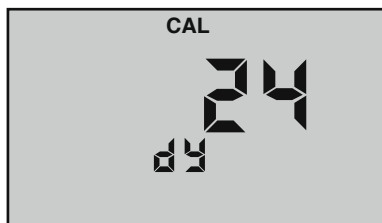

Figure 15
9. Press $\frac{\text{CAL}}{\text{MCLR}}$ to accept the change (new day) (see Figure 15).